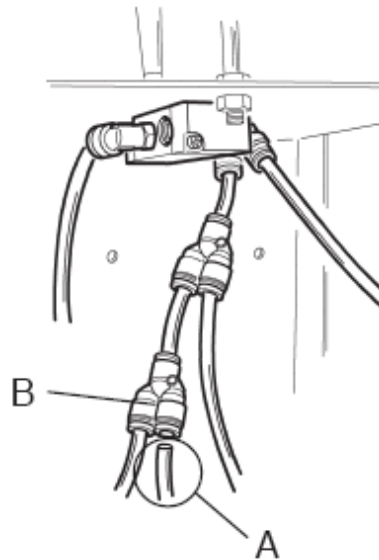

Fig.13
**AANSLUITEN LUCHT (FIG.13, 14)**